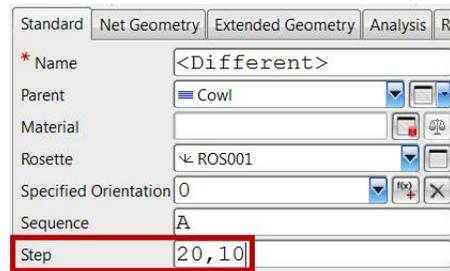

Figure 3–13
4. Press <Ctrl> + <T> to toggle to Table mode. The new plies, P002, P003, and P004, display in the table view as shown in Figure 3–14.